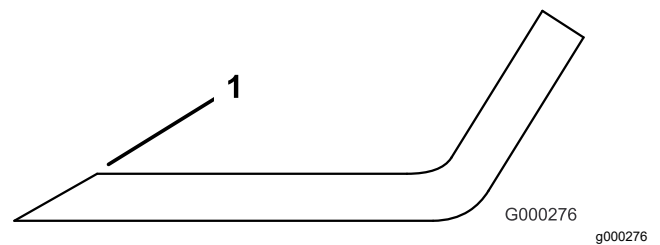

Figure 95
3. Examine the cutting edges of all of the blades and sharpen the cutting edges if they are dull or nicked (Figure 95).
Note: Sharpen only the top of the cutting edge and maintain the original cutting angle to ensure sharpness (Figure 95). The blade